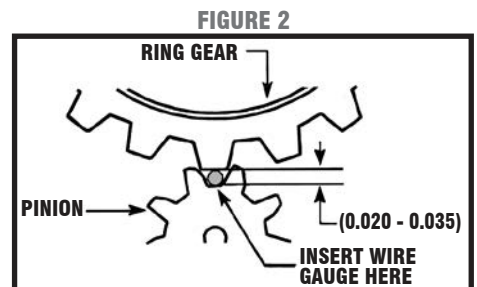

FIGURE 2
- Insert a wire gauge to check for proper clearance between the ring gear and starter pinion (see Figure 2). There should be a 0.020" to 0.035" clearance measured from the valley of the starter pinion to the tip of the ring gear tooth. (NOTE: A #1 standard paper clip is usually about 0.035" in diameter and makes an easy tool.) Check clearance at least three places on the ring gear. If the clearance is too small, add one shim at a time between the starter and engine block to bring it into specifications. In many installations, no shims are necessary.